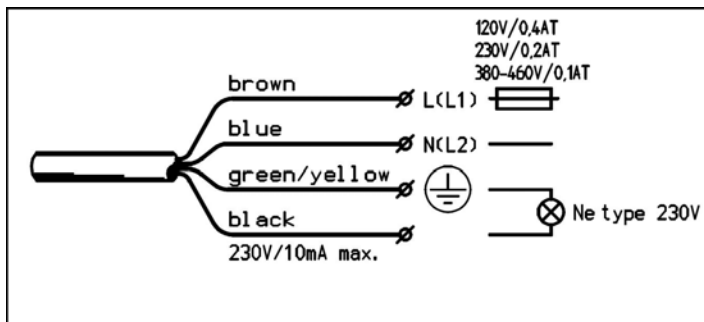

Figure 1: connection of the Neoprene power cord.
- A neon lamp (230 V) can be fitted as high-voltage indicator between the signal wire and earth, see Figure 1,2 or 3. Also a relay can be fitted which triggers an alarm signal if the high voltage fails.